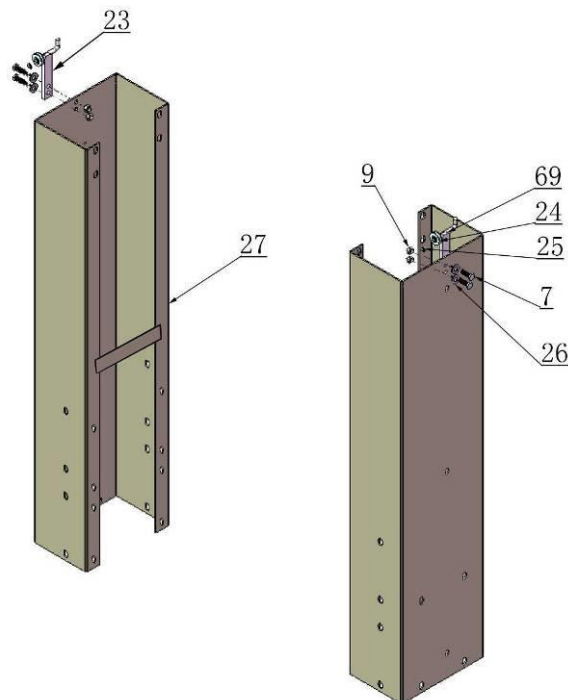

Fig. 14
D. Install parts of extension columns (See Fig. 14).